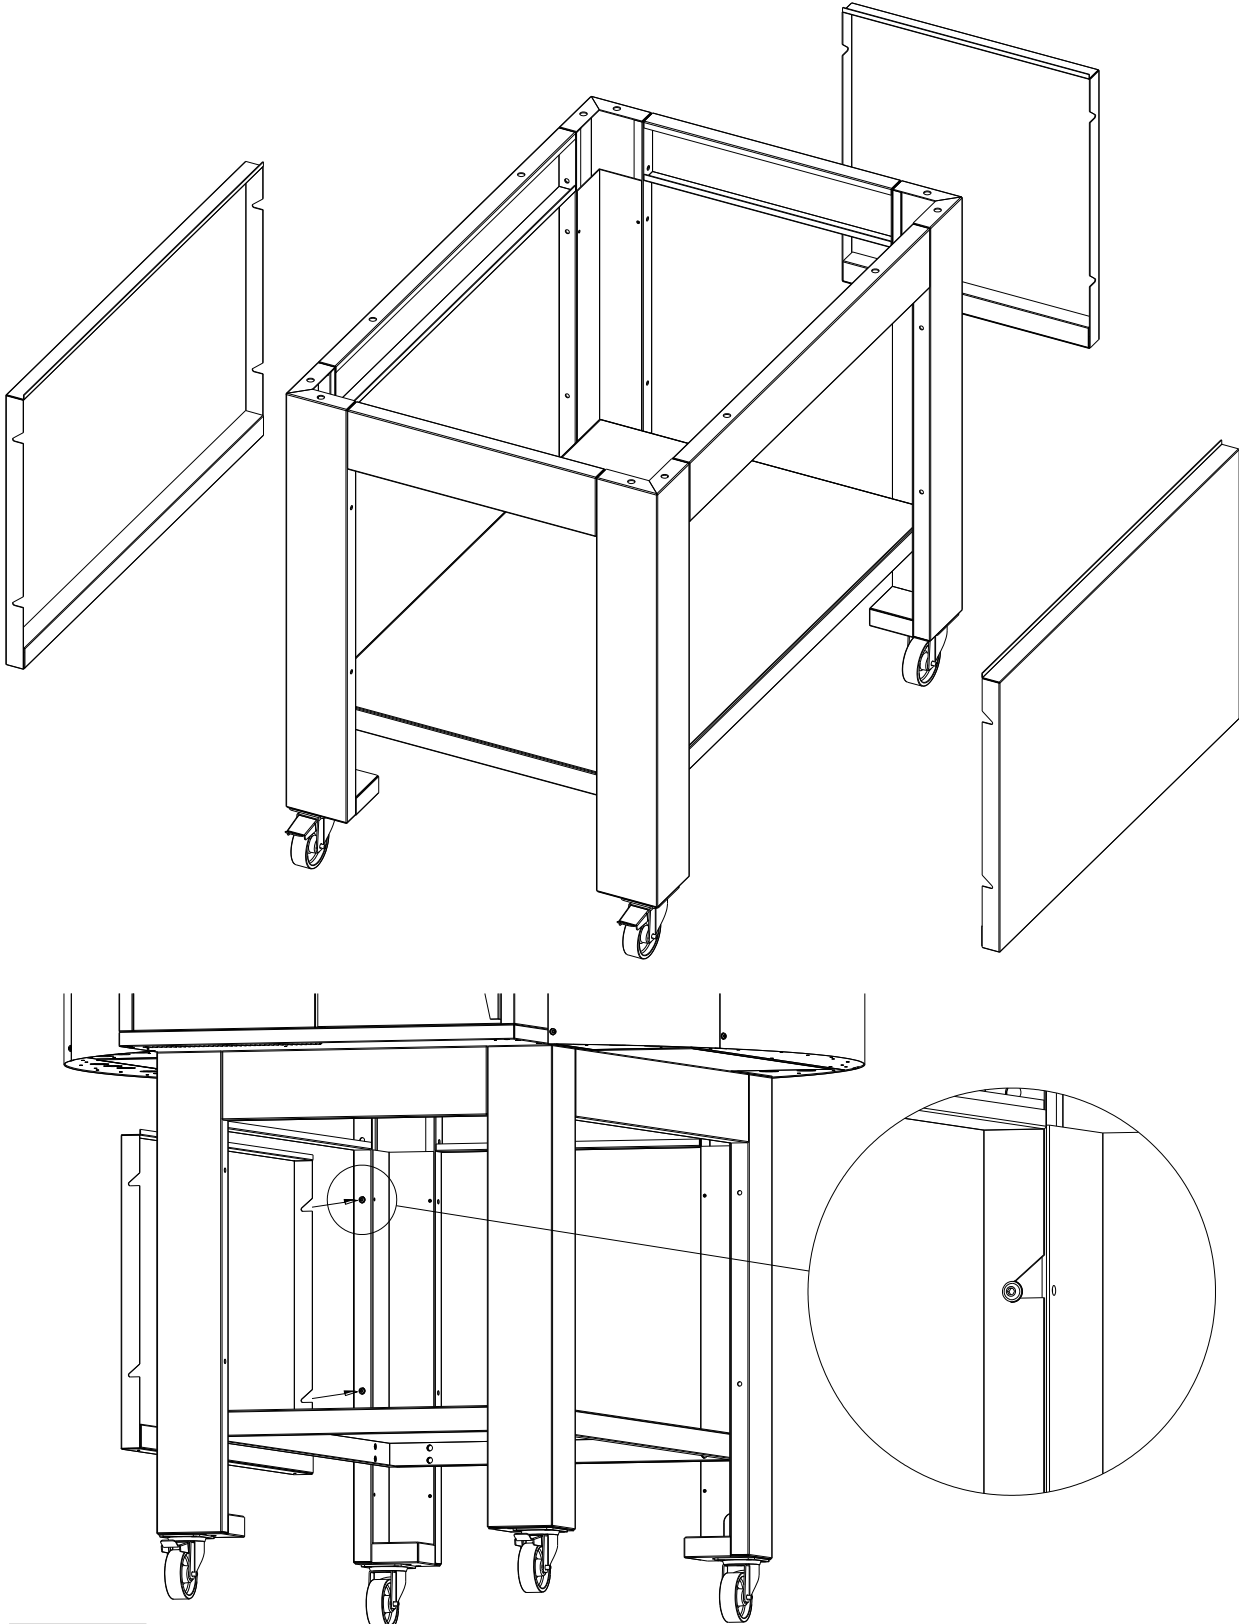

Fig.2
- 2- Set the left side panel in position and fasten it to the legs using the shaped screw holes and screws (Fig. 2), then fix the screws. Repeat the operation with the right side and rear panels.